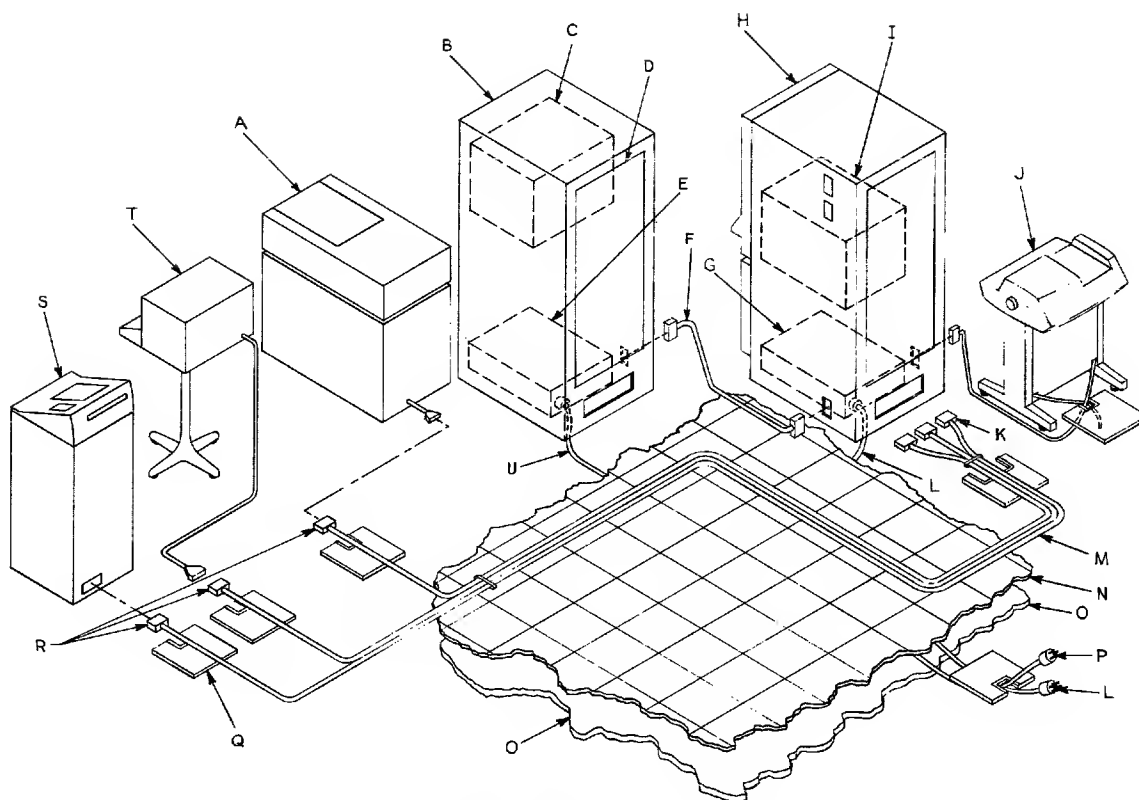

Figure 4-4. Layout of Cables and Equipment
Interconnection cables should now be prepared for installation as shown in Figure 4-4.
- Assure that cables installed beneath the raised floor are of sufficient length to reach respective mating connections on peripherals and within mainframe chassis. (Refer to Figure 4-4.)
The access plate on the bottom rear of the mainframe cabinet is for cables only; power cords connect from underneath the cabinet as shown in Figure 4-4.
- Feed the other plug-end of the orange/white line through the cabinet-interconnection access cutouts (Figure 4-4), and then plug into receptacle J3 on the mainframe cabinet's PDU.
Peripherals mounted in Prime cabinets can be interconnected with mainframe controller boards via access cutouts and cables as shown in Figure 4-4 (Index F). This category of peripheral includes tape transports, cartridge disk drives, diskette drives and paper tape reader/punches.